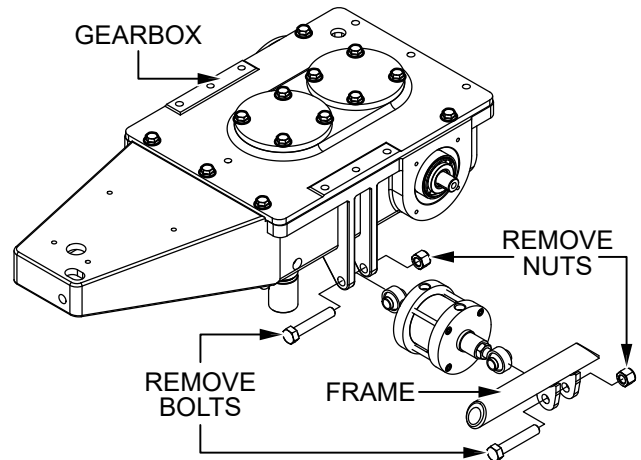

Figure 5. Remove Existing Hydraulic Cylinder
2. Remove and discard the bolt and nut securing the existing hydraulic cylinder to the gearbox (Figure 5).
3. Remove and discard the bolt and nut securing the existing hydraulic cylinder to the frame (Figure 5).